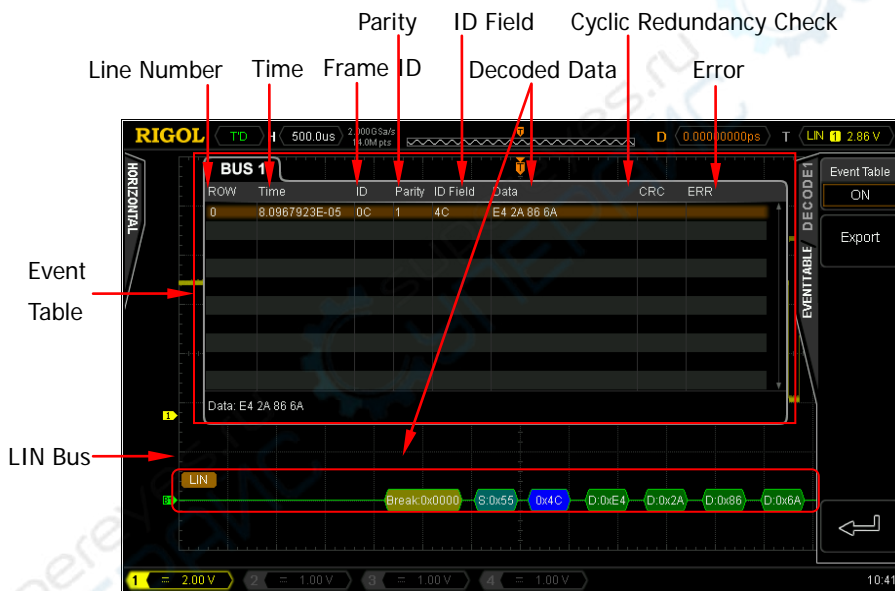

Figure 7-8 LIN Decoding
Press **BusStatus** to turn the Decode1 bus display on or off. You can also press **Decode1** to switch the current on/off status of the Decode1 display. When the bus display is turned on, the interface is as shown in Figure 7-8.
- 1) Press **Event Table** to turn on or off the event table. When the event table is turned on, the interface is as shown in Figure 7-8.